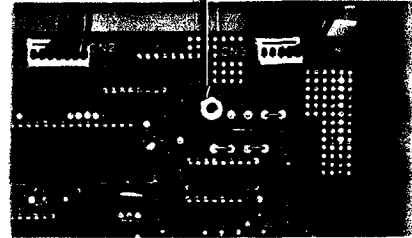

FIGURE 5.
c. See Figure 5. Finger tighten the metal spacer onto the screw.